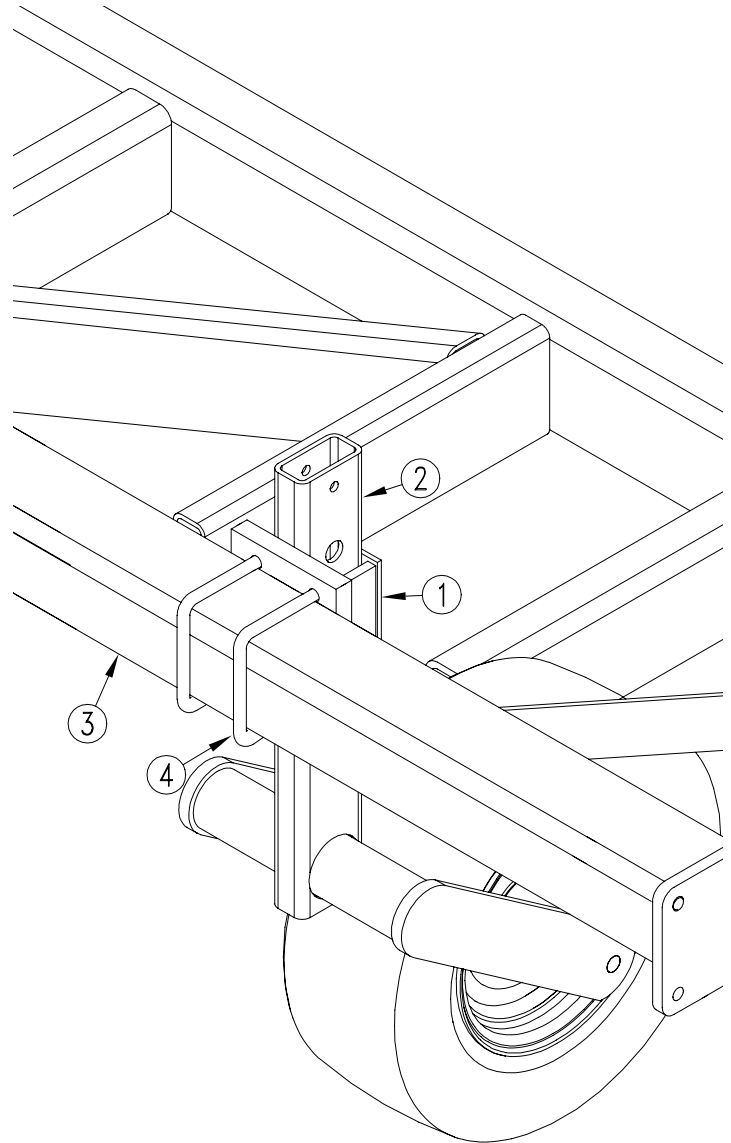

Figure 4
NOTE: There are two options for mounting jacks to gauge wheels without 12" clearance. **Option 1** moves the gauge wheels out towards the ends of the frame so they are not lined up with the tractor tires or hitch. If you choose this option, move the gauge wheels and follow steps on page 2 listed under **Mounting Jack on Gauge Wheels with 12" Clearance**. **Option 2** mounts the gauge wheels on the back side of the front frame tube as shown in Figure 4. If you choose this option, follow the steps below.
Refer to Figure 4
3. Remove gauge wheel mount. Turn mount around so gauge wheel can be mounted on back side of front frame tube (3) as shown in Figure 4.
4. Attach gauge mount (1) to back side of front frame tube (3) with U-bolts (4) removed in step 1. Place gauge wheel arm (2) on gauge wheel mount (1) and secure with pin.